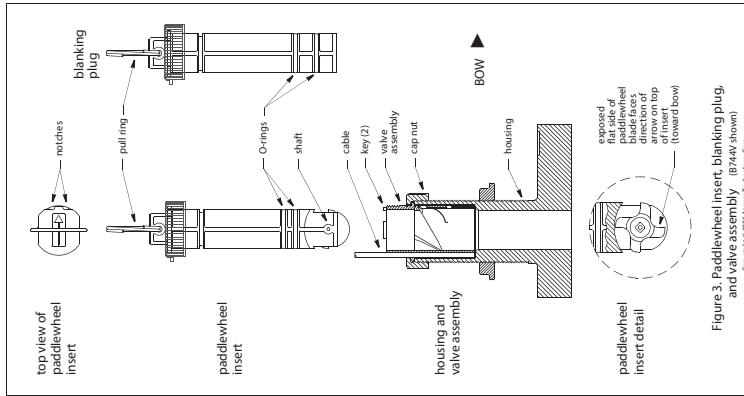

Figure 3. Paddlewheel insert, blanking plug, and valve assembly (B744V/VL)
- After the sealant cures, inspect the O-rings on the paddlewheel insert (replace if necessary) and lubricate them with the silicone lubricant supplied (figure 3). The O-rings must be intact and well lubricated to make a watertight seal.
The multisensor incorporates a self-closing valve which minimizes the flow of water into the vessel. When the paddlewheel insert is removed (Figure 3), the curved flap valve is activated by both a spring and water pressure. Water pushes the flap valve upward to block the opening, so there is no gush of water into the boat.
1. On the blanking plug, inspect the O-rings (replace if necessary) and lubricate them with silicone lubricant or petroleum jelly (Vaseline™) (Figure 3). The O-rings must be intact and well lubricated to make a watertight seal.
4. Slide the blanking plug into the housing. Seat it into place with a pushing twisting motion until the keys fit into the notches (Figure 3). Screw the INSERT nut in place and hand-tighten only. Do not over-tighten.
1. On the blanking plug, inspect the O-rings (replace if necessary) and lubricate them with silicone lubricant or petroleum jelly (Figure 3). The O-rings must be intact and well lubricated to make a watertight seal.
3. Separate the paddlewheel insert from the valve assembly by unscrewing the INSERT nut (Figure 3). Grasp the pull ring and pull slowly upward.
5. To reinstall the valve assembly, inspect the O-rings on the paddlewheel insert (replace if necessary) and lubricate them with silicone lubricant or petroleum jelly (Figure 3). The O-rings must be intact and well lubricated to make a watertight seal.
1. Using the new paddlewheel shaft, push out the old shaft about 6mm (1/4"). With pliers, remove the old shaft (Figure 3).